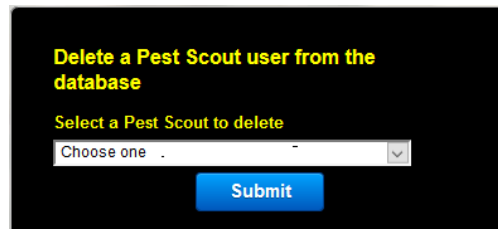

Fig. 29
1. This form allows you to delete a Pest Scout.(See Fig. 29)